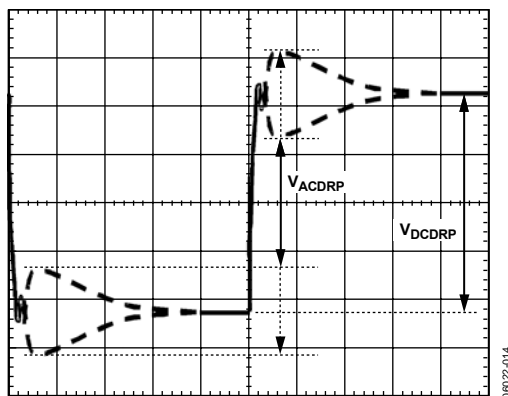

Figure 14. AC Load Line Waveform
- Measure the output waveform (if not visible, use dc offset on scope to view). Try to use a vertical scale of 100 mV/div or finer. This waveform should look similar to Figure 14.
- Use the horizontal cursors to measure  $V_{ACDRIP}$  and  $V_{DCDRIP}$ , as shown in Figure 14. Do not measure the undershoot or overshoot that happens immediately after this step.